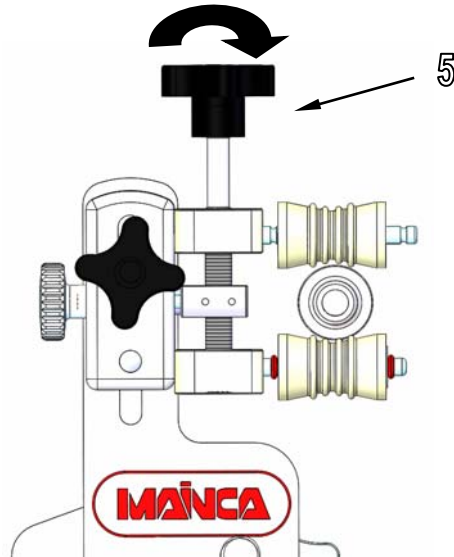

fig. 13
Finally, set the distance between upper and lower roller by means of the top knob (5). Screw the knob (5) if you need to separate the 2 rollers or unscrew it if you need to approach them. The gap between upper and lower roller should be smaller than the outer diameter of the silicon tip (X) to ensure the rollers will hold the casing tight enough to be twisted. (see fig. 13).